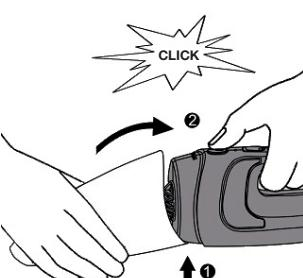
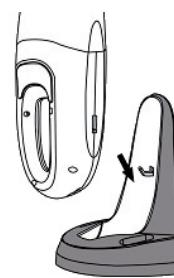

Figure 10
Figure 11
8. Reposition the container on the motor unit and click it in place (Fig. 10), then replace the appliance on its charger base (Fig. 11).